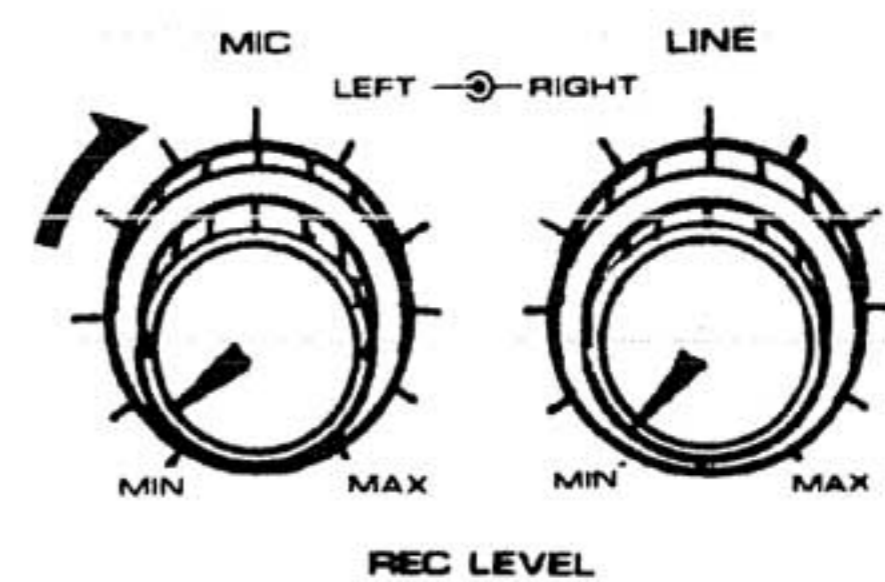

Fig. 36
5. Adjust recording levels with MIC recording level controls (Fig. 36).